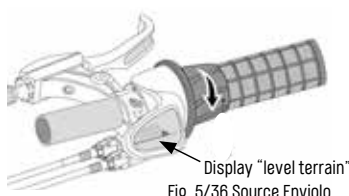

Fig. 5/36 Source Enviolo
- Anticlockwise rotation: Display shows "level terrain" („Fig. 5/ Source Enviolo“ on page 36). This transmission should be selected for faster travel.